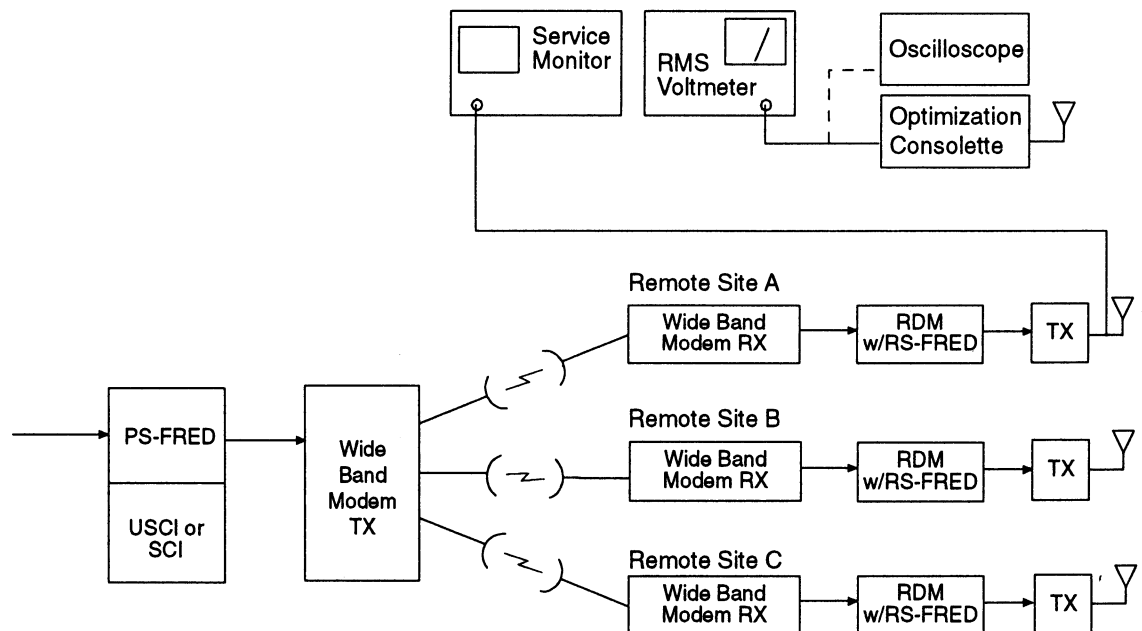

Figure 38. Four-level Deviation Adjustment Equipment Set Up
- Step 2. Refer to Figure 38 and set up your equipment to adjust coded deviation in a four-level system.